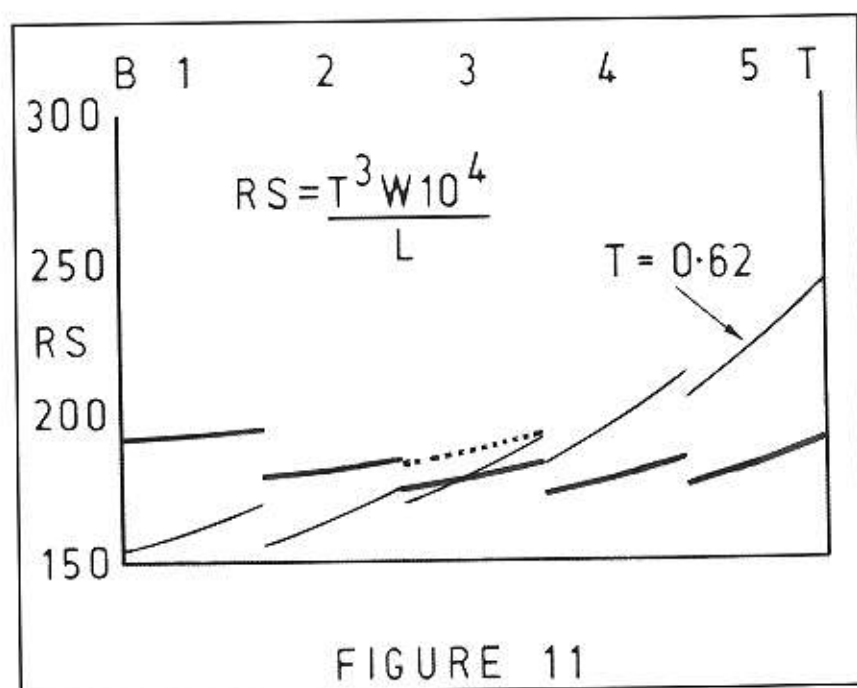

Fig 11. Relative Stiffness Values.
An interesting final exercise is to calculate RSs for the whole comb using teeth widths detailed in "Comb Design" and thicknesses as milled above. Thicknesses at teeth mid-lengths are determined by interpolating between the values already calculated for Tooth Nos. 1 and 125, which were 0.6662 and 0.5723, respectively. Resulting values of RS are plotted blue at fig 11, together with black RSs which resulted from milling at constant thickness (0.62) and modifying teeth widths.
It can be seen that by varying thickness we now have a reasonably smooth set of RS values. The dip in values around comb centre could be moved up by increasing teeth widths: however, taking account of ref 1 it seems unnecessary to fine-tune RSs any further. The writer, having milled a new Middle C segment to the graded thickness criteria, intends to increase teeth widths from 2.1 to 2.2 for this addition to his 125 teeth comb, giving slightly higher values of RS shown by the dotted line at the centre of fig 11. The reader will no doubt wish to make his own choices for thicknesses and widths of his comb teeth: hopefully this paper will be of some help.